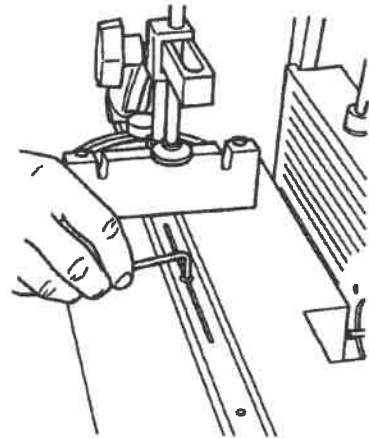

Fig. B-14
18. Use a 5/32" Allen wrench to remove the adjusting screw from the center of the miter bar, as in Fig. B-14.